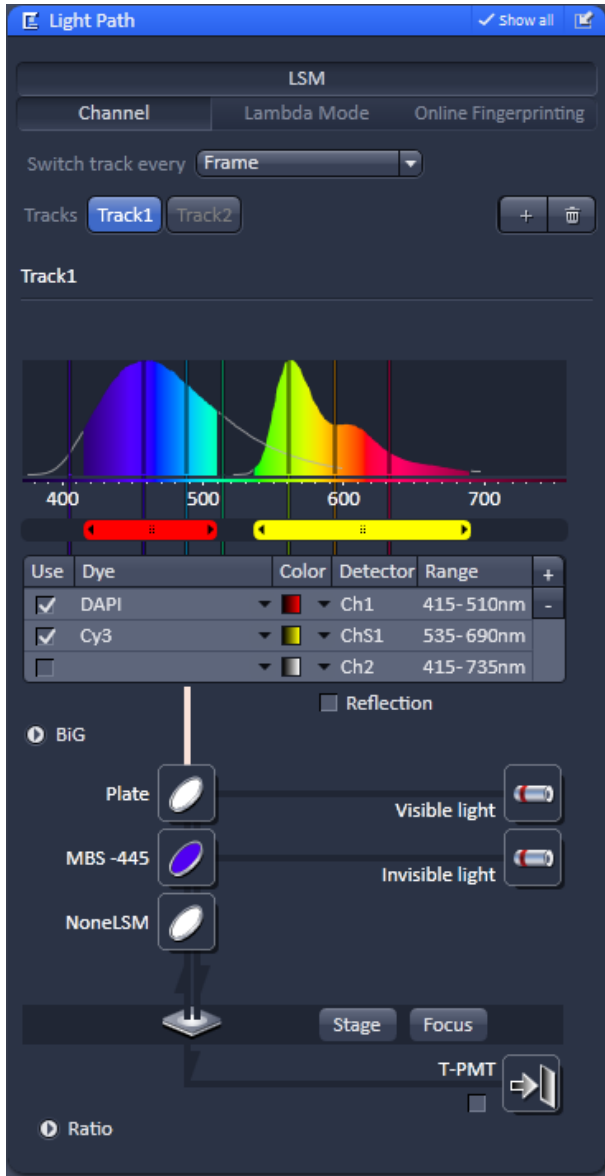

Fig. 88 Light Path panel
- Click on the **Light Path** tab to open the **Light Path** configuration panel (Fig. 88). Click on any other tab to leave the panel.